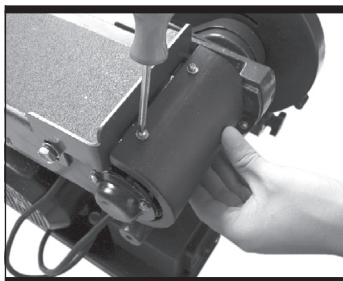

Fig 19-2
- 2) Loosen and remove the screws on the upper sanding drum guard. (Fig 19-2)